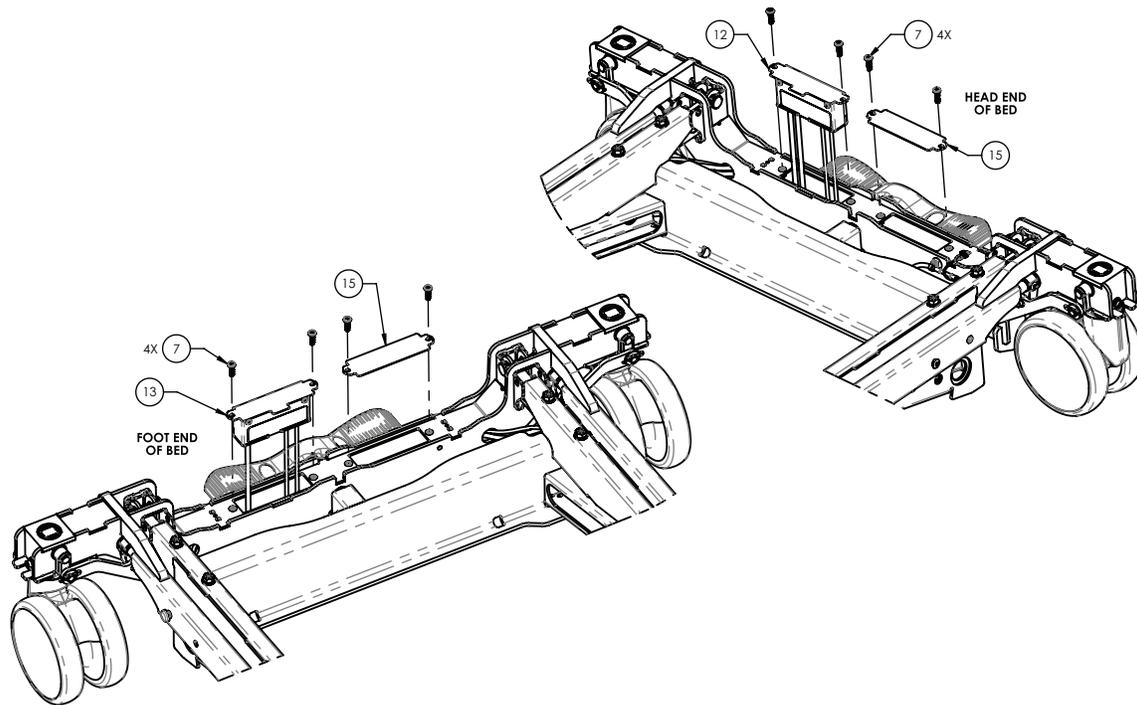

Figure 35 – Scale board replacement
7. Using a #2 Phillips screwdriver, remove and save the two screws (7) that secure the scale board assembly (12 (head end), 13 (foot end)) to the base weldment (Figure 35). Remove the scale board assembly.
8. Disconnect the communication cable and the two load cells from the scale board assembly (12 (head end), 13 (foot end)) (Figure 35). Discard the scale board assembly.